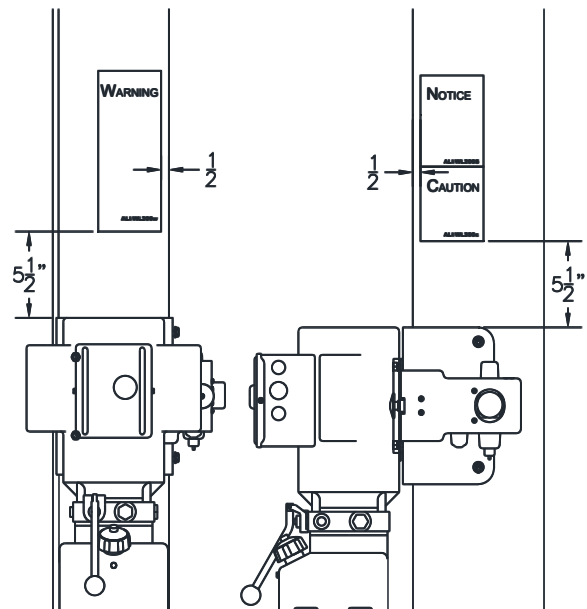

Fig 29 – Warning & Caution Decal
- 84) Place the Warning Decal, Notice Decal, and Caution Decal as shown in **Fig 29**.